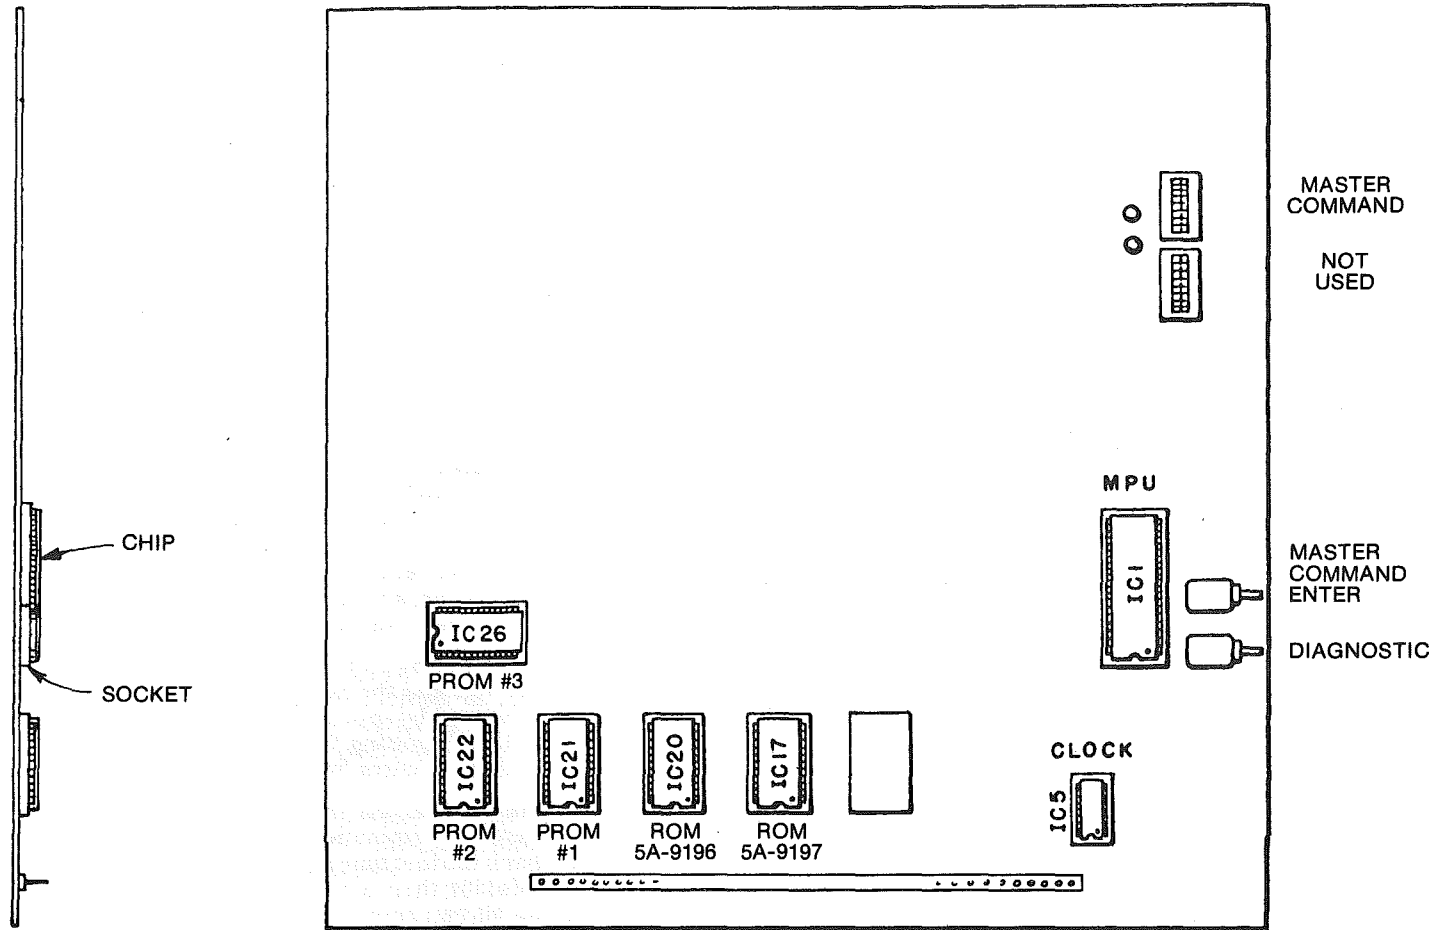

Figure 3. Location of Socketed Components and Switches on CPU Board
7. Gently press on the socketed IC packages on the CPU Board (Figure 3). **DO NOT** remove any of the IC packages from their sockets.